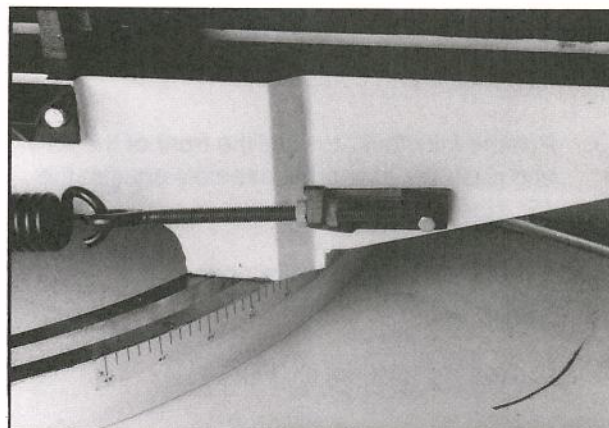

Fig. 11
5. Adjust tension to approximately 15 lbs. by turning the adjustable C-bolt found at the end of the coil spring on the rear of the bandsaw. See Figure 11.